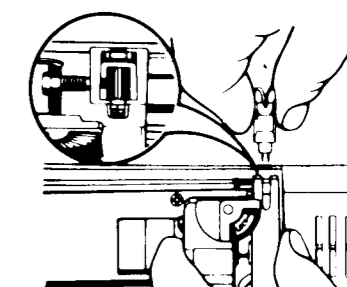

Fig. 6
3. Pull out the cartridge, taking care not to touch the stylus. (Fig. 6)
4. When mounting the cartridge, match the tonearm connector with the cartridge pin and completely insert the cartridge and tighten the setscrew. (Fig. 6)